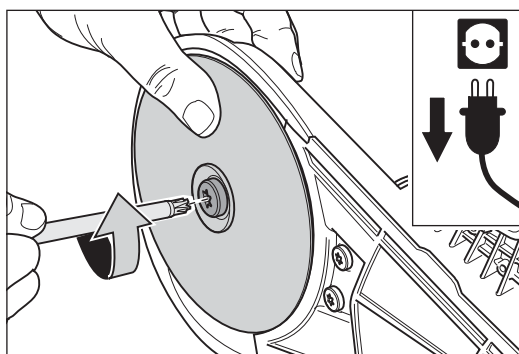

Fig. 12 Remove the screw with the universal spanner.
- 4 Use the universal spanner to remove the screw from the sanding plate (Fig. 12).